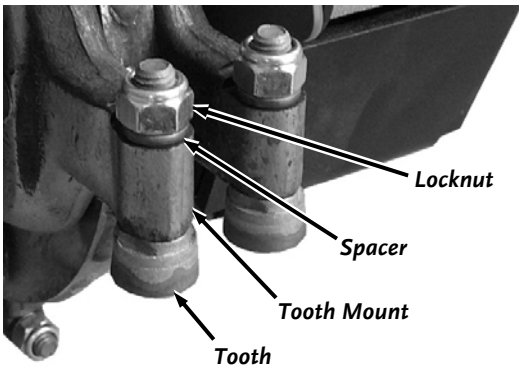

Figure 50
2. Remove the Locknut from the tooth threads (**Figure 50**).